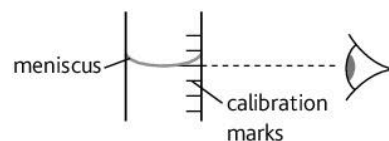

Figure 8.1.2 Reading a burette. Your eye should be level with the bottom of the meniscus.
- Adjust the level of the meniscus to a definite graduation (calibration) mark. Make sure that you take the reading from the bottom of the meniscus (see Figure 8.1.2).